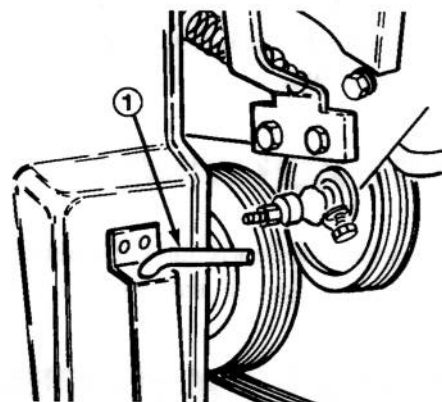

Figure 13
- B. Remove the override pin from the storage bracket on the front of the coring head cover (Fig. 13).
1. Remove override pin from storage bracket on front of coring head cover (Fig. 13).